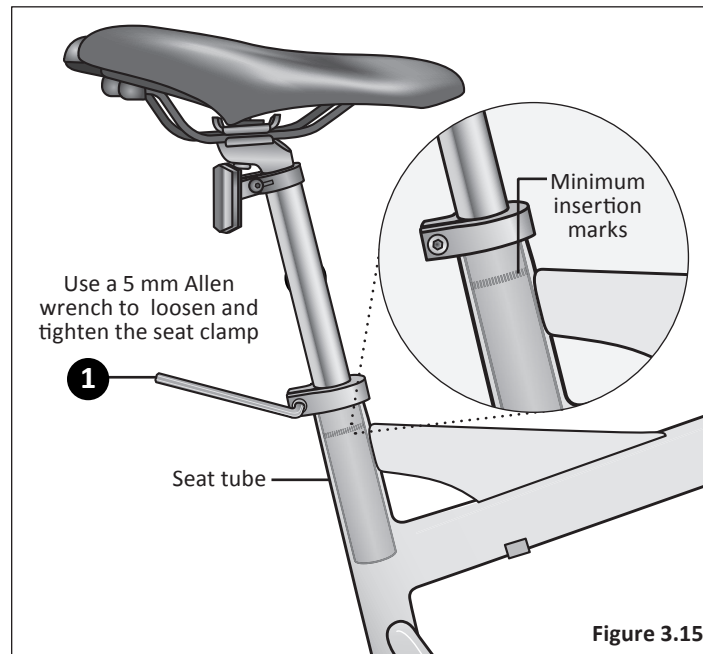

Figure 3.15
- 1 Using a 5 mm Allen wrench, loosen the seat clamp bolt and insert the seat post into the seat tube. **Figure 3.15**